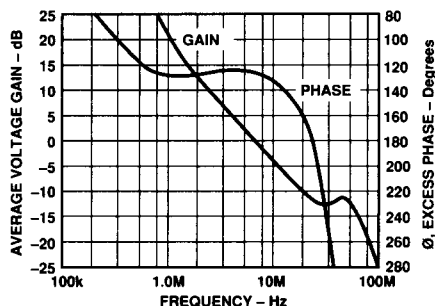

Figure 13. Open-Loop Gain and Phase Response for the Uncommitted Input Op Amp of the AD206
**Compensating the Uncommitted Input Op Amp.** The open-loop gain and phase versus frequency for the uncommitted input op amp are given in Figure 13. These curves can be used to determine the appropriate values for the feedback resistor and compensation capacitor in order to ensure frequency stability when reactive or nonlinear components are used in conjunction with the uncommitted input op amp.